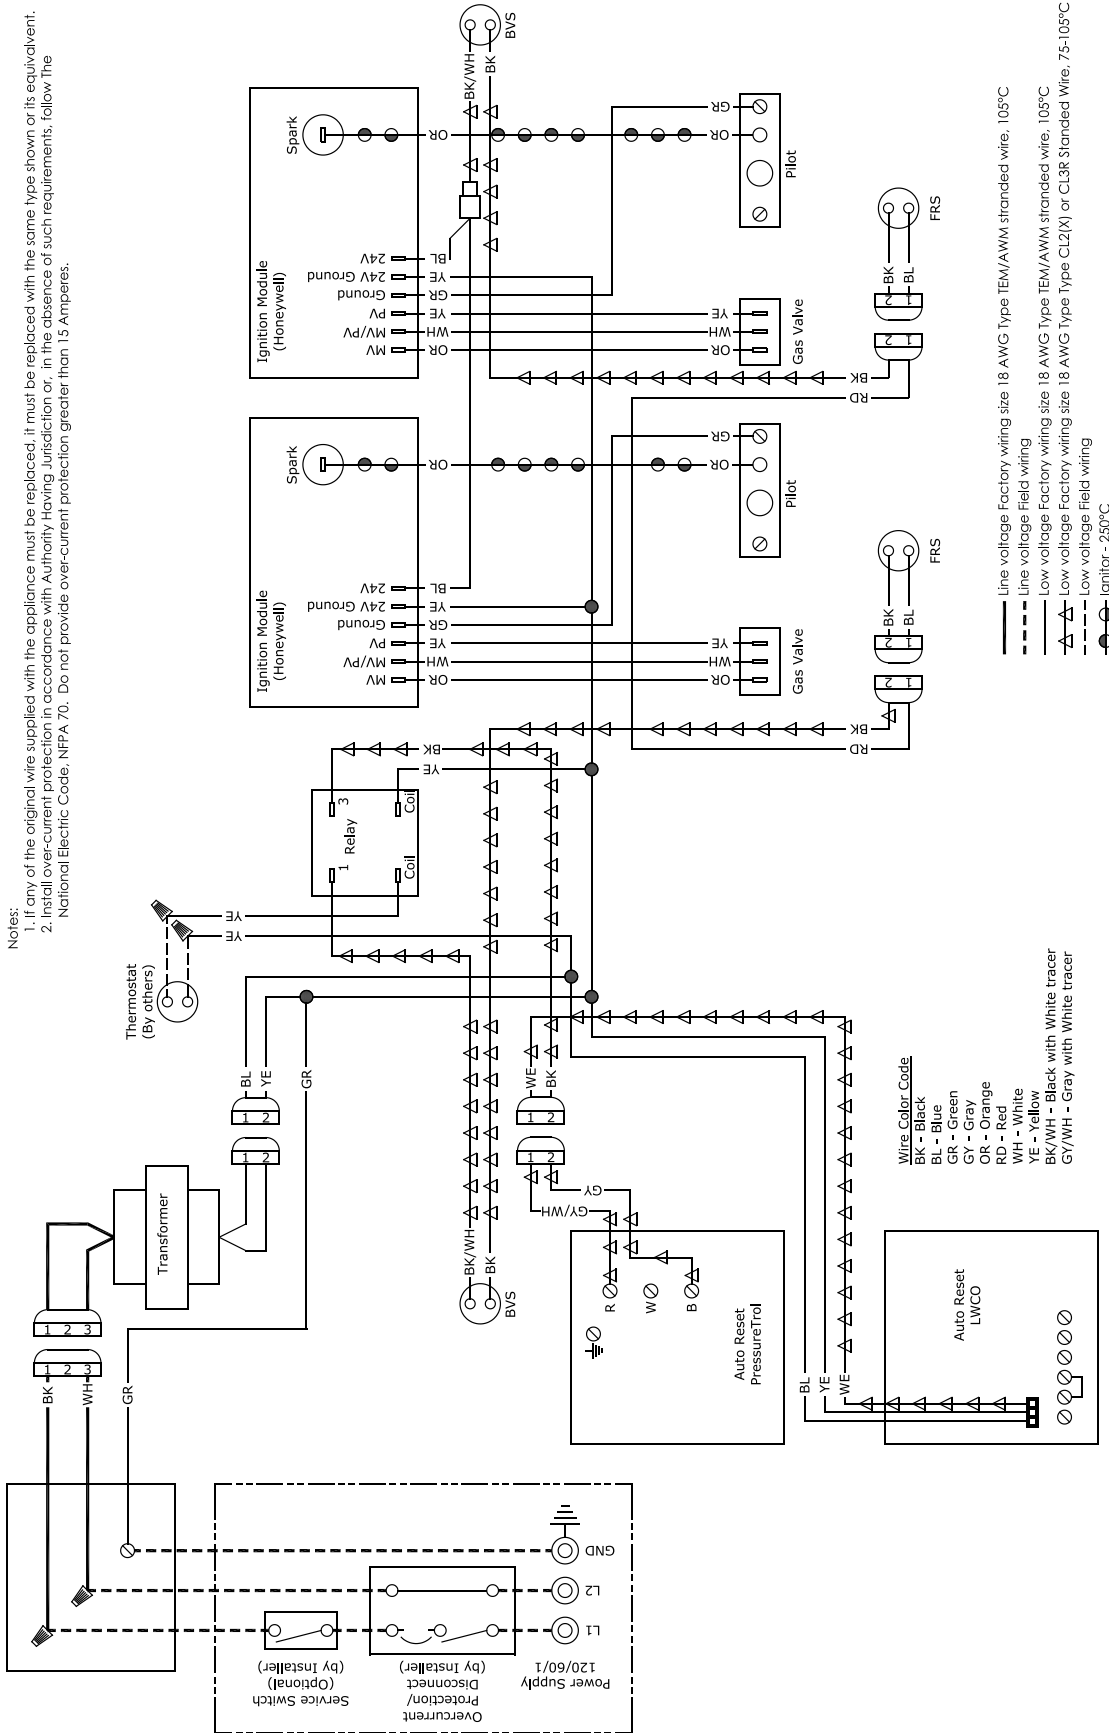

Figure 9-3: Wiring Diagram STMX350 through STMX550, Non CSD-1
- A. Install manometer on 1/8" outlet pressure tap on gas valve (see Figure 9-3). Use of shutoff valve between manometer and gas valve can prevent pressure surge that blows out manometer fluid.
21. Measure carbon monoxide (CO) level in vent after 5 minutes of main burner operation. CO should not exceed 200 ppm air free.